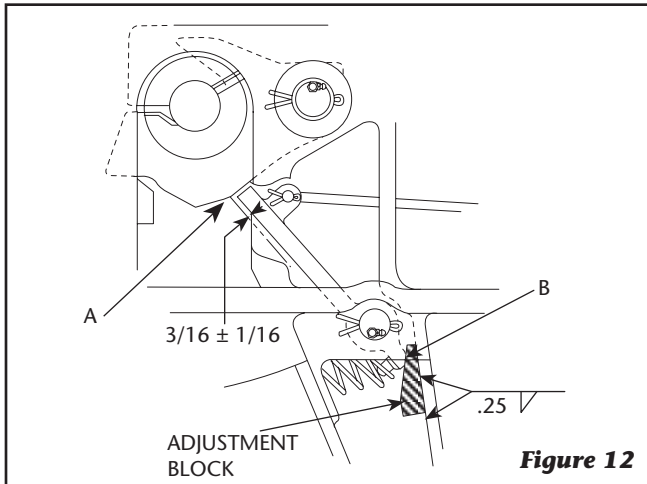

Figure 12
- A.** Pre-install the secondary lock (10) in the closed position in the casting. Do not install the spring, handle, or secondary lock pin yet. Align the lock pin holes and rotate the secondary lock up against the adjustment block. Check the location of the end of the secondary lock in relation to the swinging lock. It should be 3/16" (0.188") ± 1/16" (0.06") from point (A) on the swinging lock (see **Figure 12**) when the secondary lock is resting against the adjusting block at point (B).